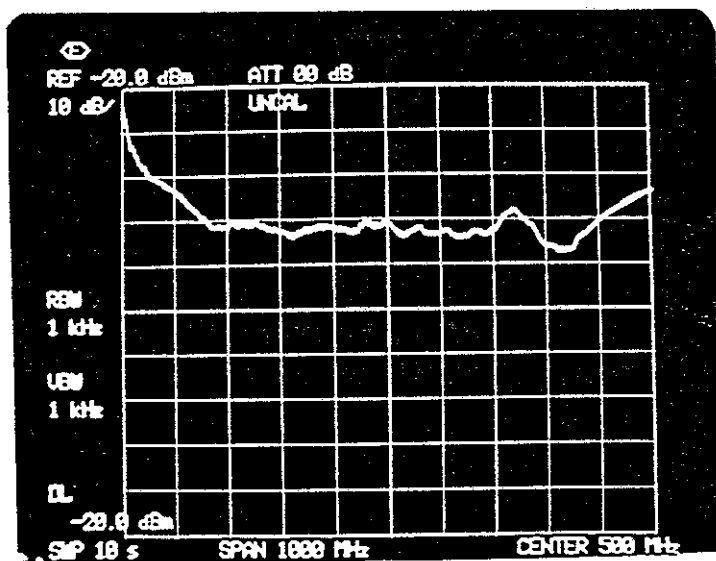

Figure 3-9 Example of electric field shielding effect
- (1) When the initialization and normalization are complete on the spectrum analyzer, a plastic shielding material can be inserted for measurement.
- (2) Release the lock at the top of the TR17301A by rotating the handle lever, rotate the handle base clockwise, and open the moving cover toward you.
- (3) Insert the shielding material from the top to bottom, close the moving cover, and lock the handle base.
- (4) Rotate the handle lever counterclockwise and lock the moving cover. The test piece (plastic shielding material) has been fixed.
- (5) The distance between the display line and waveforms on the screen indicates the shielding effect. In the example shown in Figure 3-9, the display line (-20.0 dBm) locates at the top of the screen. The distance between the top of the screen and the waveforms is the shielding effects of the material.